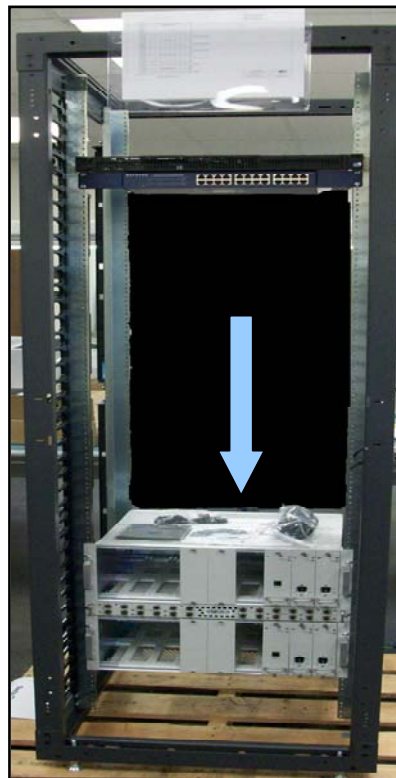

Figure 4-14. Host Unit Cabinet
- Optional Cabinet with Host Unit installed as shown in **Figure 4-14**.